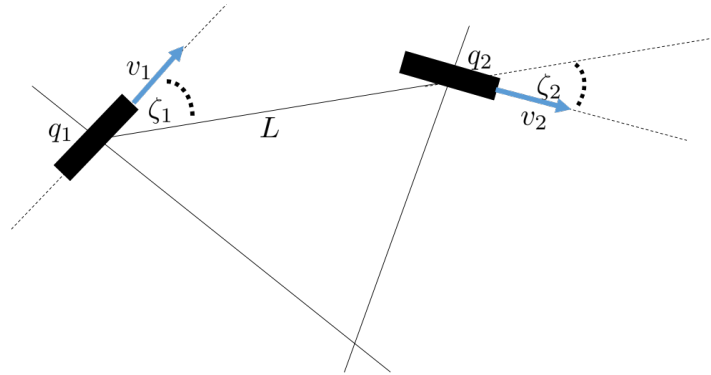

Figure 1: A diagram for a bicycle in which both wheels can be steered.
Figure 1 depicts an advanced bicycle model in which both the front and rear wheels can be steered. The following parameters describe the elements in the figure:
- ζ_i is the orientation of wheel i from the line extending between q_1 and q_2 . Note that positive angles are with respect to a z axis coming out of the page (i.e. ζ_2 in Figure 1 would have a negative value and ζ_1 would have a positive value).